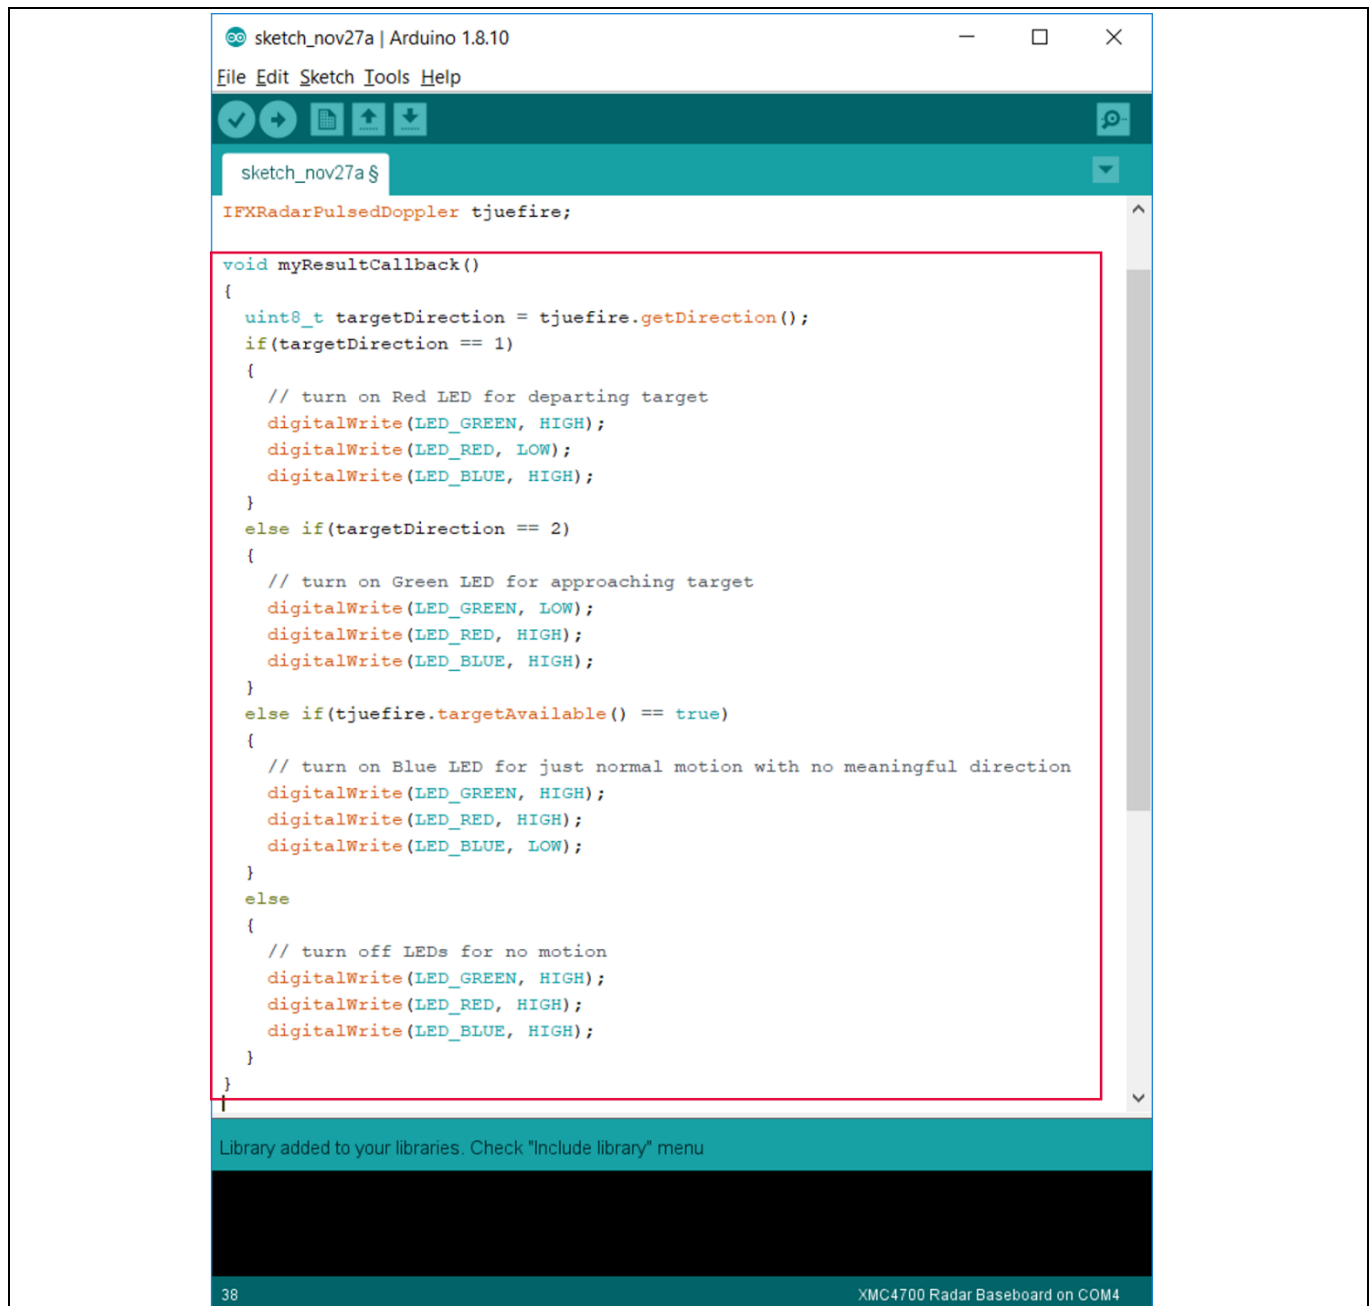

Figure 14 Example for callback function definition
- Next, define the callback function to perform application tasks upon completion of a round of radar processing, for example to turn on or off an LED. In the example shown in Figure 14, different LED colors are used to indicate different radar processing results. Table 2 lists the APIs that can be called to retrieve the result of the radar processing.